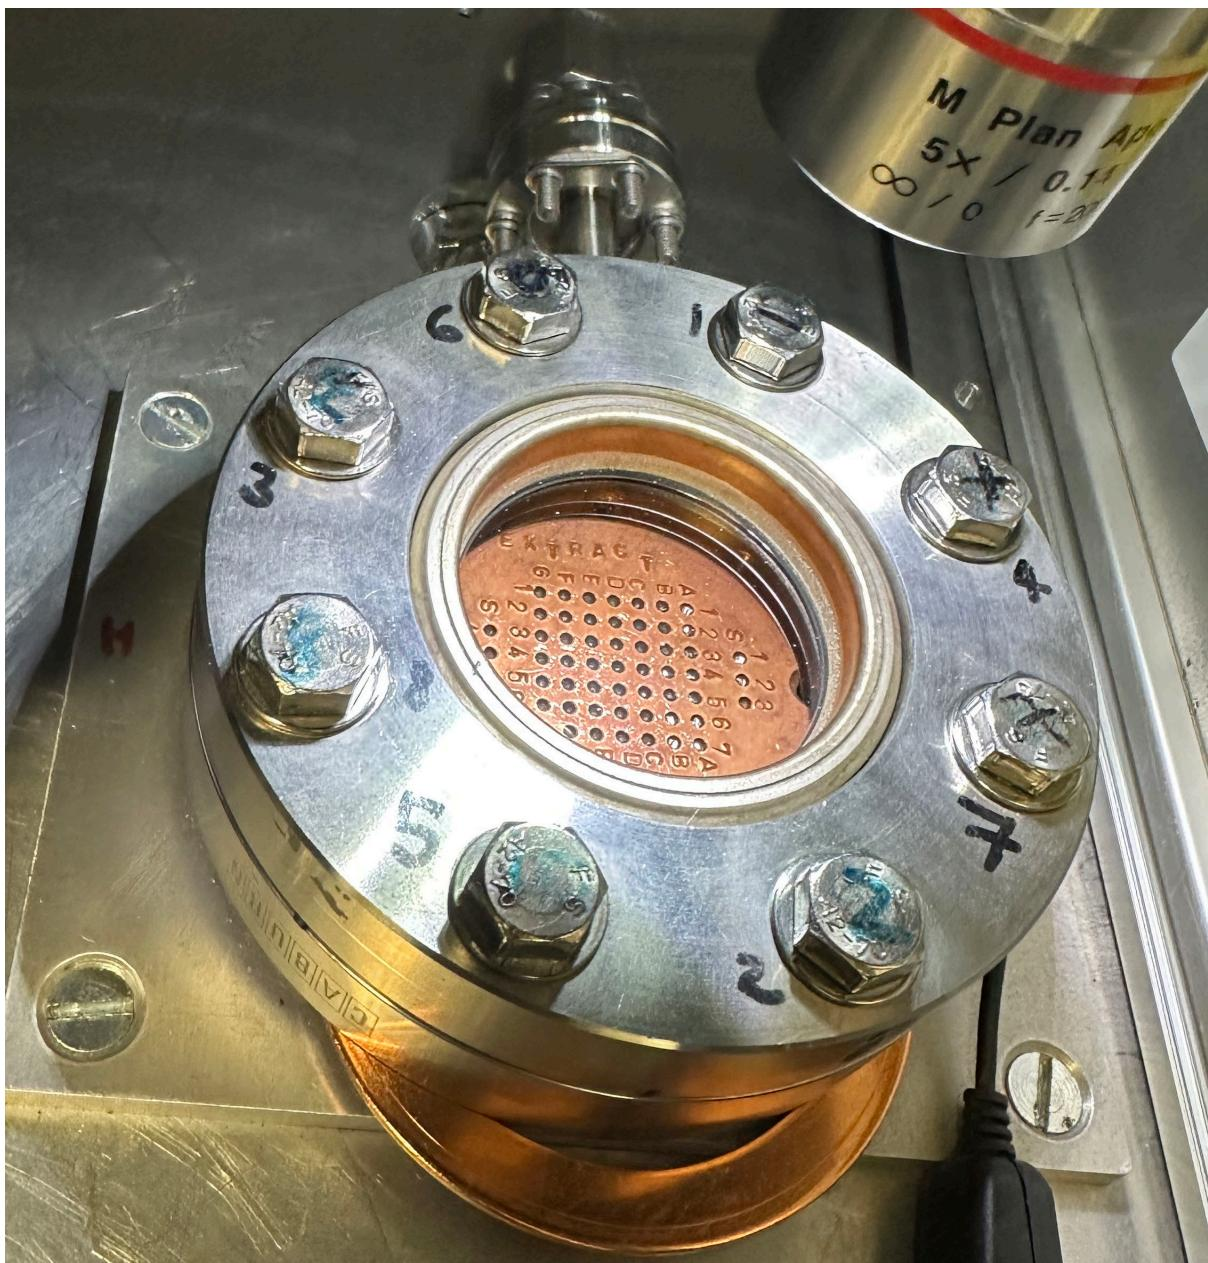

Figure 2: Planchet in Laser Chamber
5. A 4 mm bolt is kept in a petri dish next to the laser port. If samples have been unloaded previously it may already be screwed into the planchette. If not, screw this bolt, handling only the cap head end, into one of the threaded holes in the planchette, and carefully lift the planchette into the sample chamber. Align the planchette so that hole number 1 is in the top right of the chamber as you are viewing it (Figure 2). Carefully